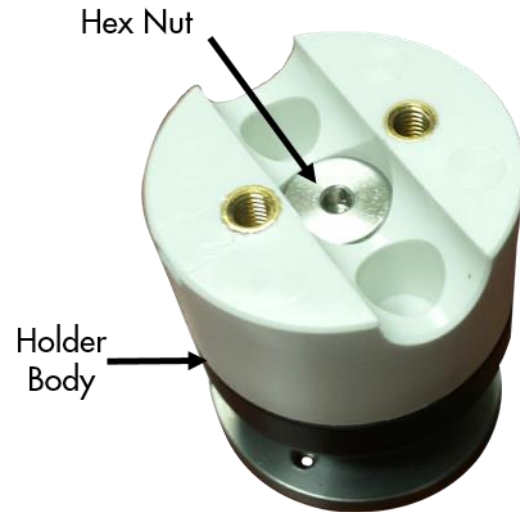

Fig. 3
2. Use a 1/8" hex key to remove the holder body. (Fig. 3)